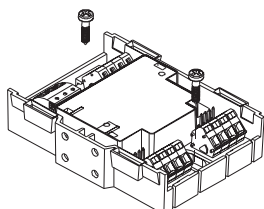

Fig. 4.3.1
- Installation directly in a switching cabinet or a control unit: mount the module on an even surface (Fig.4.3.1).
2. Fix module with two screws M4x15 (Fig. 4.3.1). Distance between holes: 63.5 ± 1.0 mm.